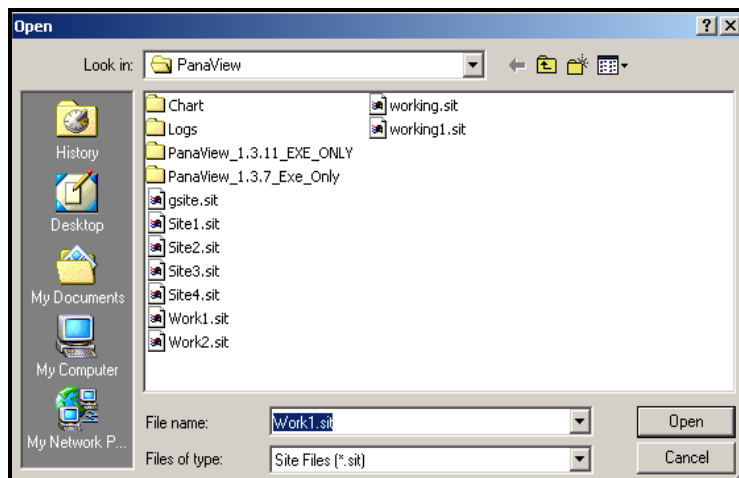

Figure 50: Site File Selection
- Then click on the [Save Site to Meter] button. A screen opens similar to Figure 50.
2. Click [Save Site to PC]. A window opens similar to Figure 50 on page 140.
3. The *Site File Selection* window (as in Figure 50 on page 140) opens. Enter the desired site name (now with a .prt suffix) and click on [Save]. PanaView displays a text version of the site, as shown in Figure 52.